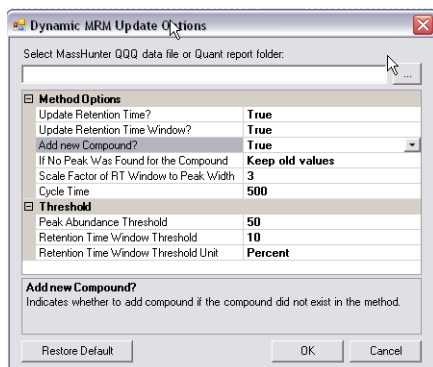

Figure 13 Dynamic MRM Update Options
- 4 Click **Update Method** to open the Dynamic MRM Update Options dialog box shown in Figure 13.
8 Repeat step 3 through step 6 until all the data files that contain the standards that will be used in the one Dynamic MRM method have been added. Make sure nothing is changed in the method and that all the **Method Options** parameters in the Dynamic MRM Update Options dialog box (Figure 13) are set to **True** and **If No Peak Was Found for the Compound** is set to **Keep old values**.
Note that the cycle time in the Dynamic MRM Update Method Options dialog box (Figure 13 on page 25) is applied only the first time the method is created using the Update Method function. After that, the cycle time must be manually typed into the MS QQQ > Acquisition tab.